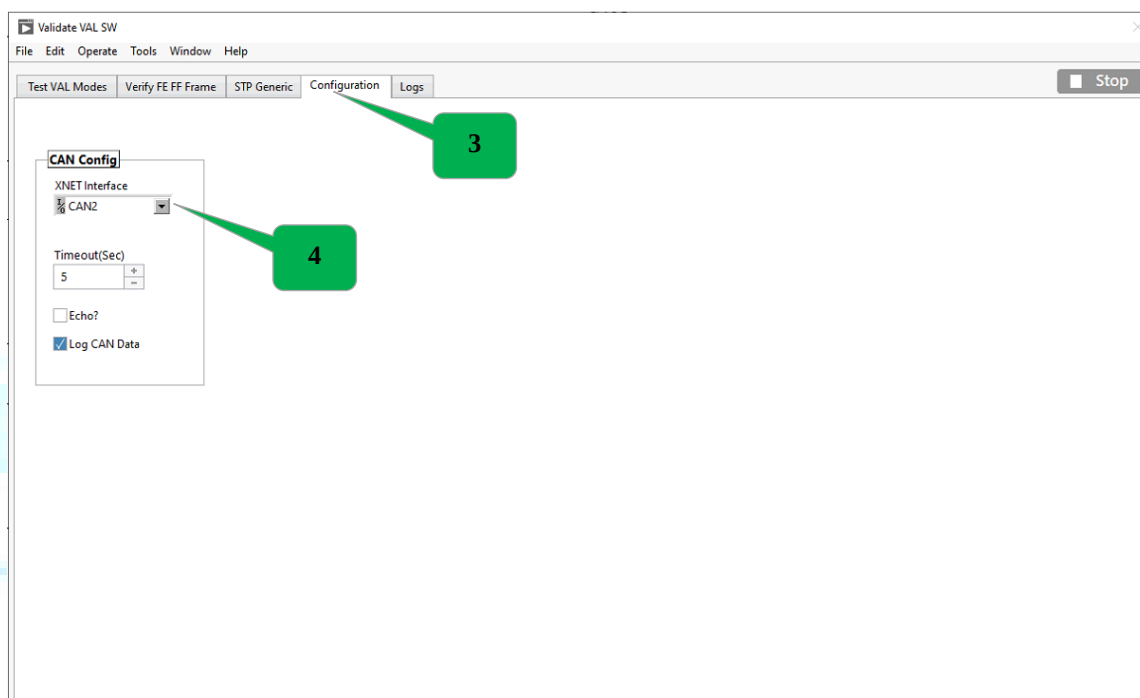

Figure 55: CAN Configuration
- 2) Click the CAN Diagnostic Button and Refer Fig 55.